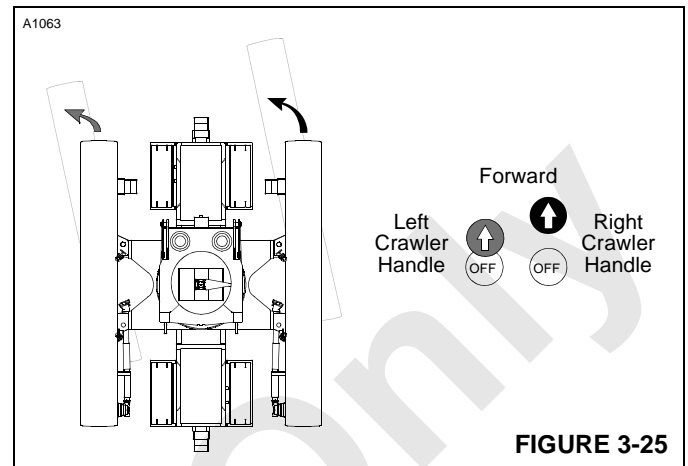
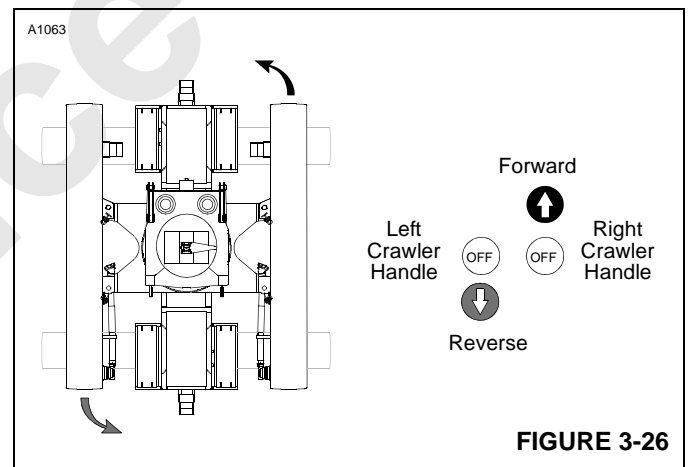

FIGURE 3-25
FIGURE 3-26
- Make gradual turns (Figure 3-25) or counter-rotate (Figure 3-26) whenever possible so both crawlers are always powered.
10. To make a GRADUAL LEFT TURN (Figure 3-25), move both crawler handles to front from off, but move right
12. To COUNTER-ROTATE LEFT (Figure 3-26), move right crawler handle to front from off and move left crawler handle to rear from off.